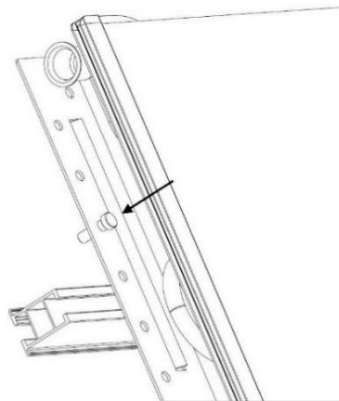

Figure 7.2-a panel with M8 bolt to prevent slipping.
1. Insert the TS anti-slip bolt into a hole in the end profile on each side of the heat pump panel to prevent it from slipping. See figure 7.2-a.